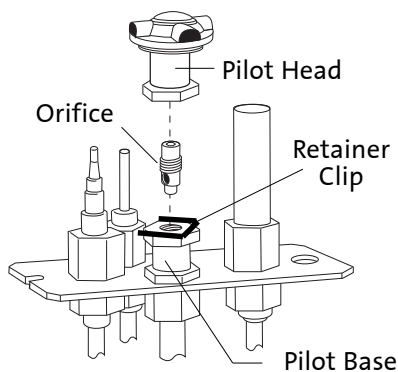

Figure 26. Pilot orifice removal and replacement.
11. **CHANGE THE PILOT ORIFICE: From within the firebox, remove the Pilot Head by pulling it straight up from the pilot base.** See fig. 26. Using the 4 mm hex key included with the kit, unscrew the pilot orifice (counter-clockwise). Replace with the appropriate orifice: